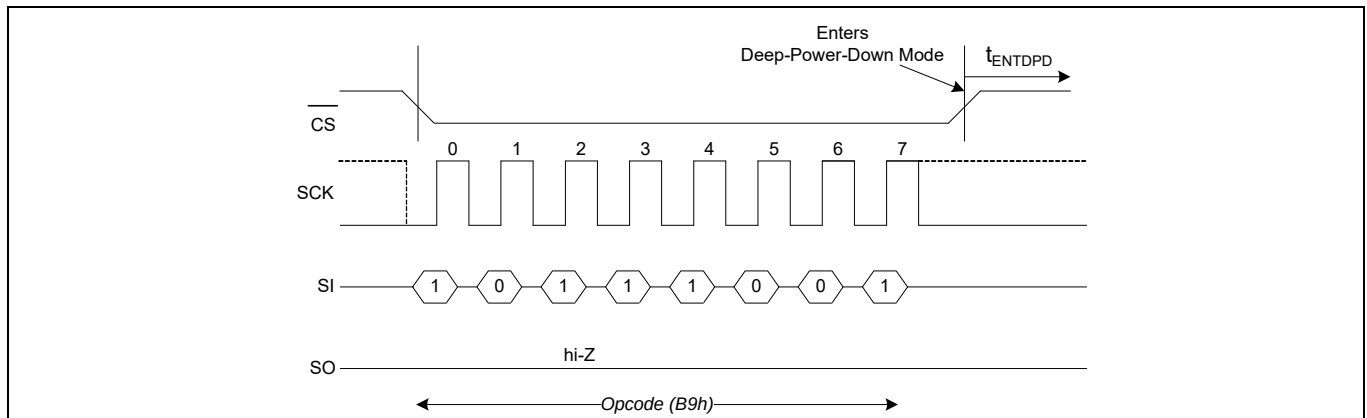
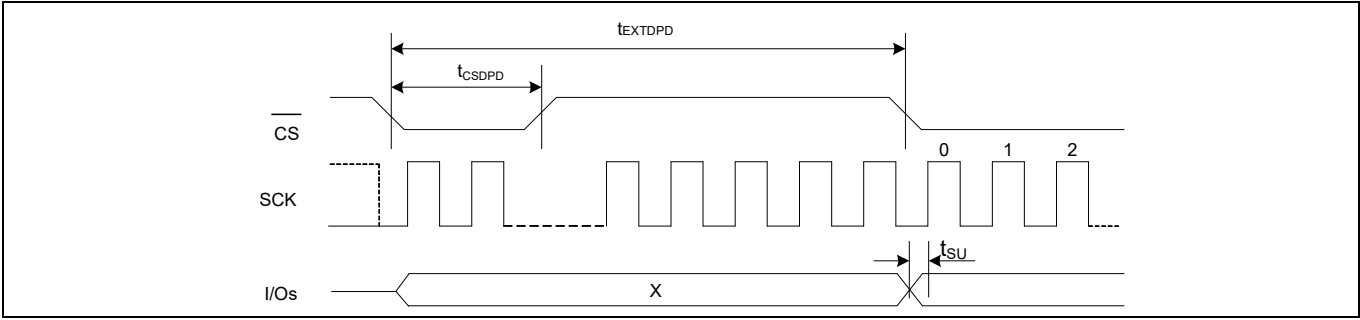

Figure 99 DPD entry in SPI mode
Figure 102 DPD exit in SPI mode
A $\overline{CS}$ pulse-width of t_{CSDPD} or hardware reset exits the DPD mode after t_{EXTDPD} time. The $\overline{CS}$ pulse-width can be generated either by sending a dummy command cycle or toggling $\overline{CS}$ alone while SCK and I/Os are don't care. The I/Os remain in hi-Z state during the wakeup from Deep Power-down. Refer to Figure 99 for DPD entry and Figure 102 for DPD exit timing.
- The timing details shown in the Figure 99 are applicable as is in DPI and QPI modes.